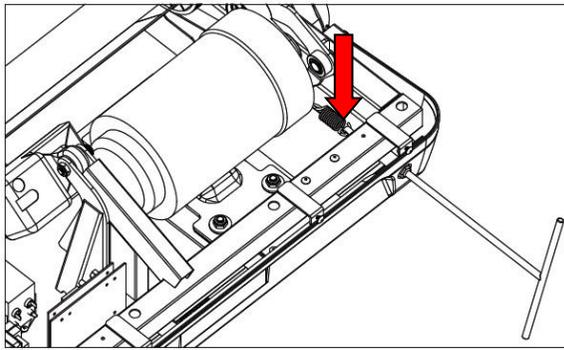

Figure 4.3.3
4.3.4 As shown in Figure 4.3.3, use the tool to secure the red arrow and release the belt with the 13th T-sleeve to remove the belt and remove the belt from the motor.